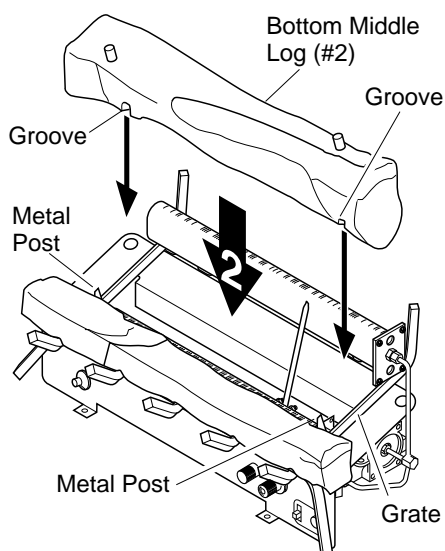

Figure 18 - Installing Bottom Middle Log (#2)
2. Rest bottom middle log (#2) behind metal posts on front burner. Make sure the grooves in the bottom of the log fit over the grate. Bring the log forward next to the metal posts. The pegs on the log must be on top (see Figure 18).